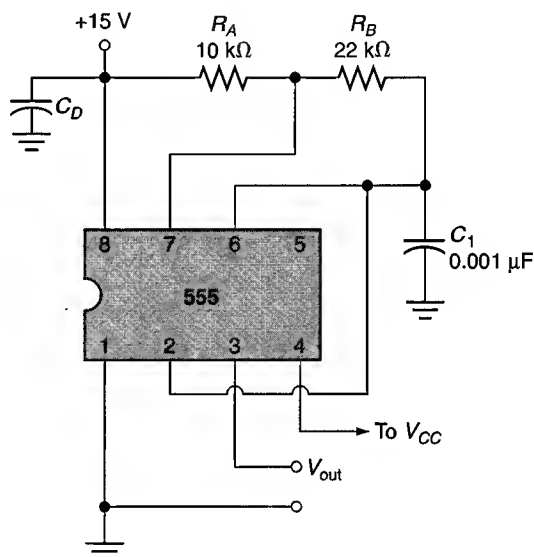

FIGURE 19.67
34. Calculate the operating frequency, duty cycle, and pulse-width values for the free-running multivibrator in Figure 19.67.
36. The value of C_1 in Figure 19.67 is increased to $0.033 \mu\text{F}$. Recalculate the values of operating frequency and pulse width for the circuit.